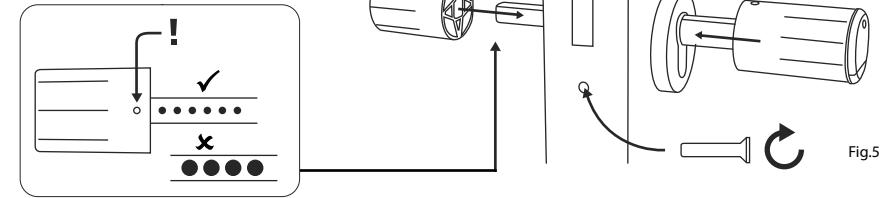

Fig. 5
- 5 Screw the cylinder into the door and push the inside and outside knobs up to the door (Fig. 5).